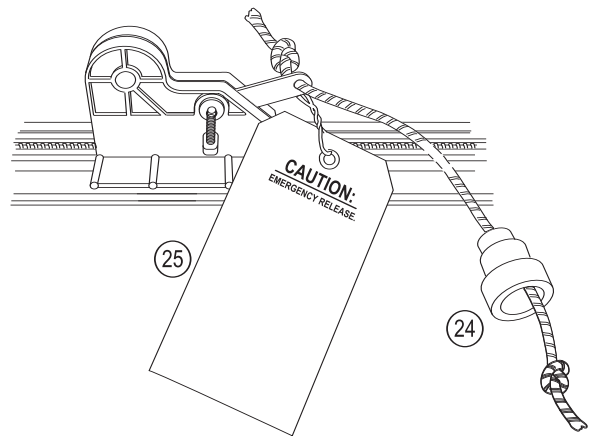

Figure 16 Attach Emergency Release Cord and Knob
- Tie overhand knot at one end of emergency release cord and pull cord through the hole in the release lever up to the knot (**Figure 16**).